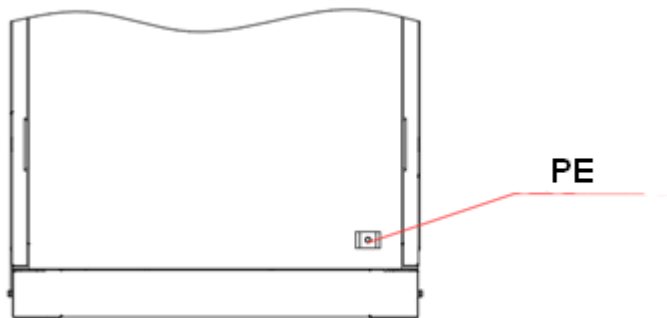

Figure 2.15 Position of the cabinet ground point
- m) Connect the grounding position of the cabinet shell, as shown in Figure 2.15.